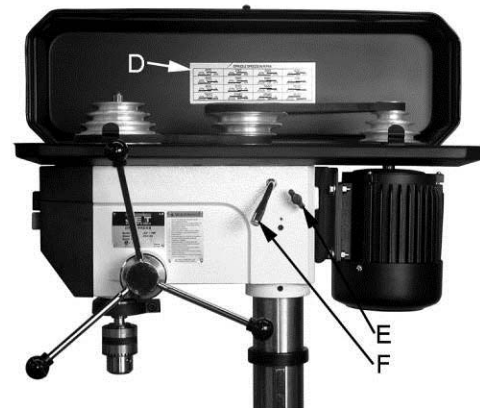

Figure 11
A spindle speed and pulley/belt arrangement chart for all models is found on the inside of the *pulley cover* (D, Fig. 11). Refer to this chart whenever changing speeds.
2. Loosen two *bar knobs* (E, Fig. 11) found on each side of the head assembly.
3. Rotate the *tension adjuster* (F, Fig. 11) clockwise to bring the motor base as close to the head as possible.
5. Rotate the *tension adjuster* (F, Fig. 11) counterclockwise to tension the belts.
6. Tighten two *bar knobs* (E, Fig. 11). Belts are properly tensioned when finger and thumb pressure midway between the two pulleys causes approximately  $\frac{1}{2}$ " deflection.